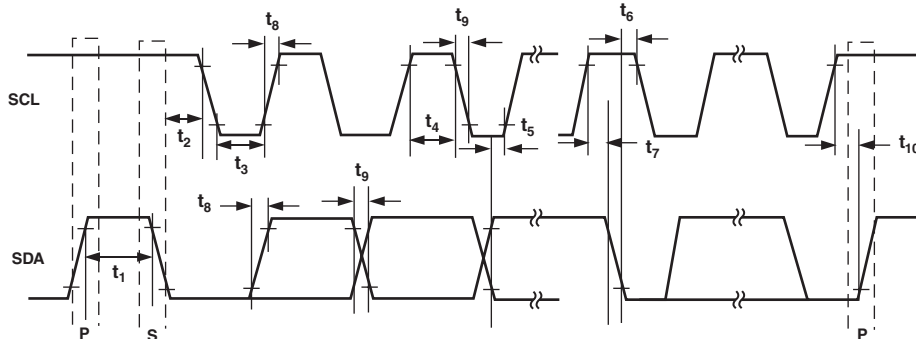

Figure 1. Interface Timing Diagram
- 13See Figure 1 for location of measured values.